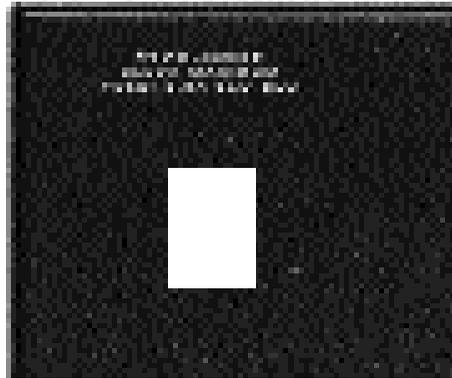

FIGURE 5
- The AC power fuse is intact and has not blown. If the fuse has blown, the thin metal conductor will have melted and the glass may appear “smoked”. If the fuse has blown, replace with a fuse of the same rating (3.5 Amp/250V slo-blo for 100 to 120 volt countries and 1.6 Amp/250V slo-blo for 220 to 240 volt countries). (See Figure 5)